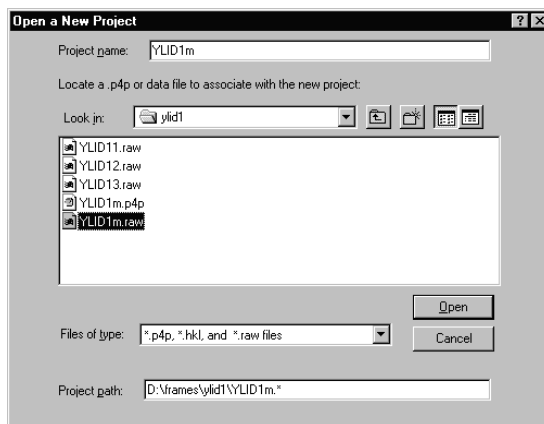

Figure 6-3. Locate the YLID1m.p4p file
3. Use the built-in Explorer to locate the YLID1m.raw file. In this example, the file is in D:\frames\ylid1\work (Figure 6-3).